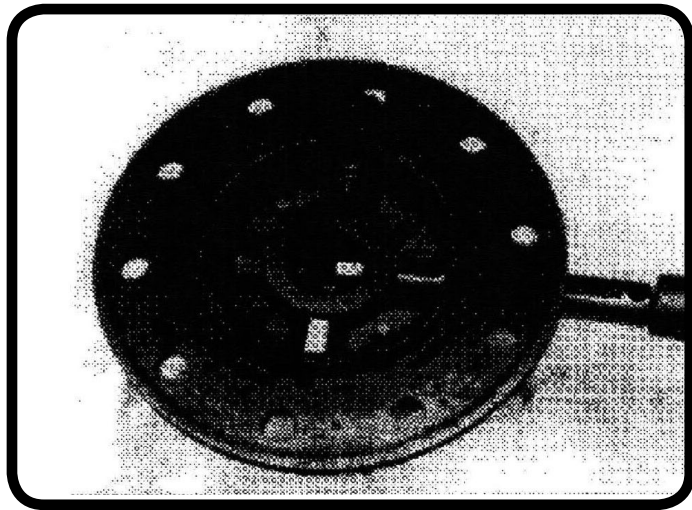

Figure 7
2. Place a driver onto the side gear in the case with the teeth meshed (see **Figure 7**).
a) Four-pinion case: Place the pinion shaft block into the center of the driver. (The two stub shafts in your kit will not be used.) Drive the two short shafts part way into the block first to help hold it and then drive in the long shaft (**Figure 7**).